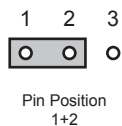

Figure 2.2 J7 — Default Position
- **Pin 1** (left) + **Pin 2** (center) position — In this position, the analog reference is terminated with an 75ohm resistor. This configuration is to be used for point-to-point cabling, or on the last card of a daisy chain topology. This is the default position (**Figure 2.2**).